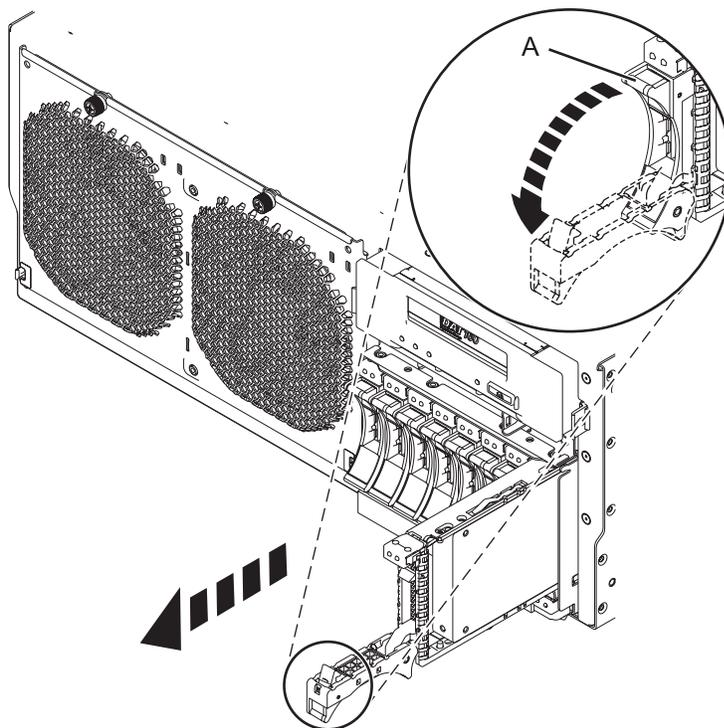

Figure 24. Removing a disk drive from the system
1. Unlock the drive handle by squeezing it and pulling it out toward you, as shown in Figure 24. If the handle is not all the way out, the disk drive or solid-state drive cannot slide out of the system or out of the expansion unit.